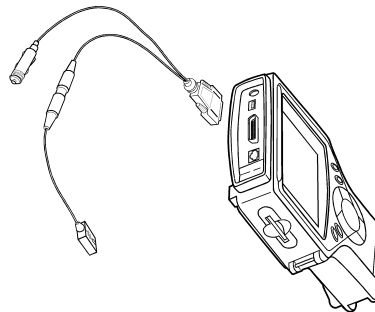

Figure 3.13: DB25 Power Cable Connection to Scan Tool
- 2 Connect the cable's 25-pin connector to the DB25 port on the top of the scan tool. Finger tighten the connecting screws (see Figure 3.13).